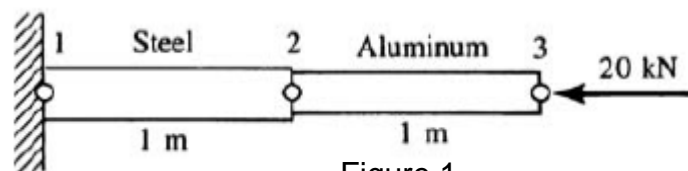

Figure 1
- 1A.** For the truss assemblages shown in Figure 1, determine the nodal (05)